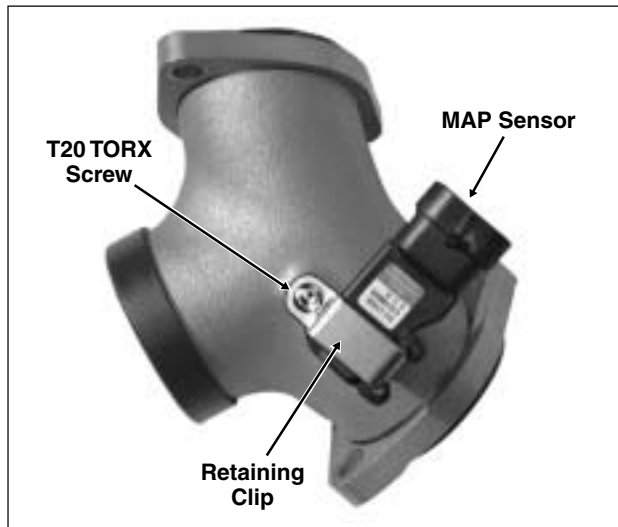

Figure 8-6. Intake Manifold
3. Remove T20 TORX screw to release retaining clip from intake manifold. See Figure 8-6.
3. Install T20 TORX screw and tighten to 25-35 **in-lbs** (2.8-4.0 Nm). See Figure 8-6.